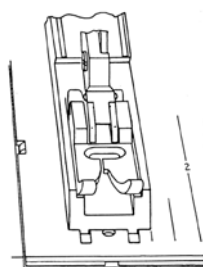

Fig. 20
- Insert the presser foot gauge (63-114 690-39) from behind under the zigzag foot and into the cutout of the needle plate (fig. 20).